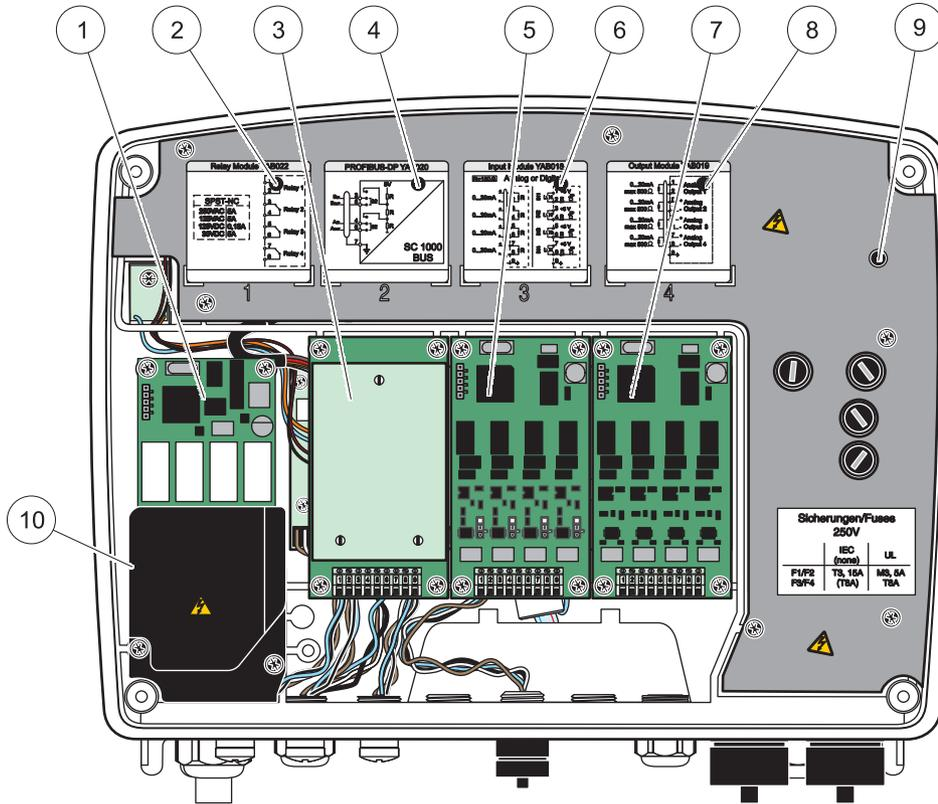

Figure 18 Expansion card ports
3. Connect the relay card to the appropriate slot (Figure 18). Use a magnetic screwdriver to secure the four phillips-head screws to the card (it is easier to connect the cards with the module in its normal vertical mounted position, rather than laid horizontally on a bench).
6. Write the serial number from the rating plate on the supplied sticker and attach it to the main high voltage barrier (Figure 18). This serial number is the same internal address of the card on the network.
2. Connect the input card to the appropriate slot (Figure 18). Use a magnetic screwdriver to secure the four screws to the card.
5. Write the serial number from the rating plate on the supplied sticker and attach it to the main high voltage barrier (Figure 18).